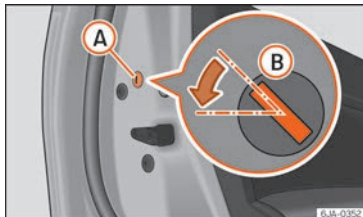

Fig. 6 Rear door: emergency lock.
- Remove the cap **A** »» **Fig. 6**.